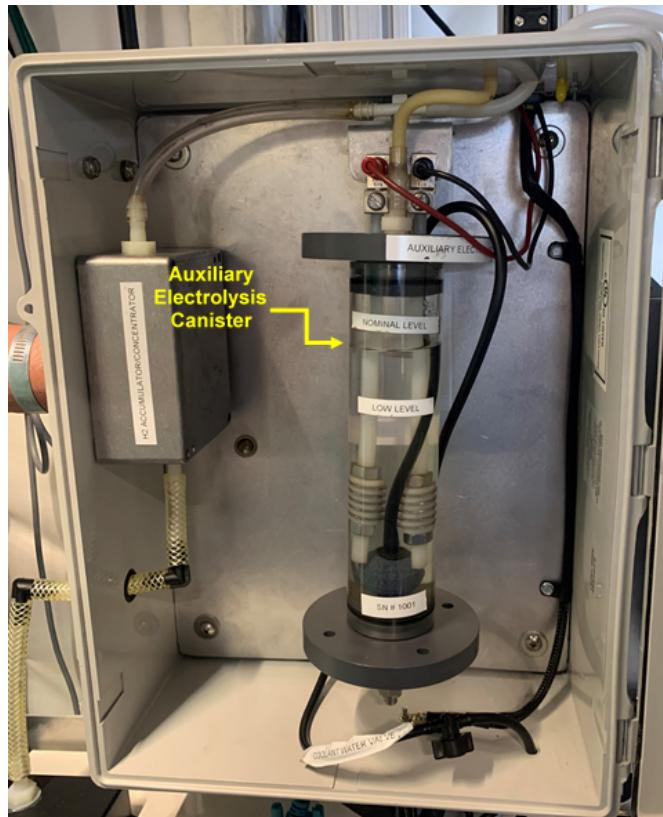

Figure 2: Auxiliary Electrolysis Module
- 1.5 Note level of water in the Auxiliary Electrolysis Canister (see Figure 2).